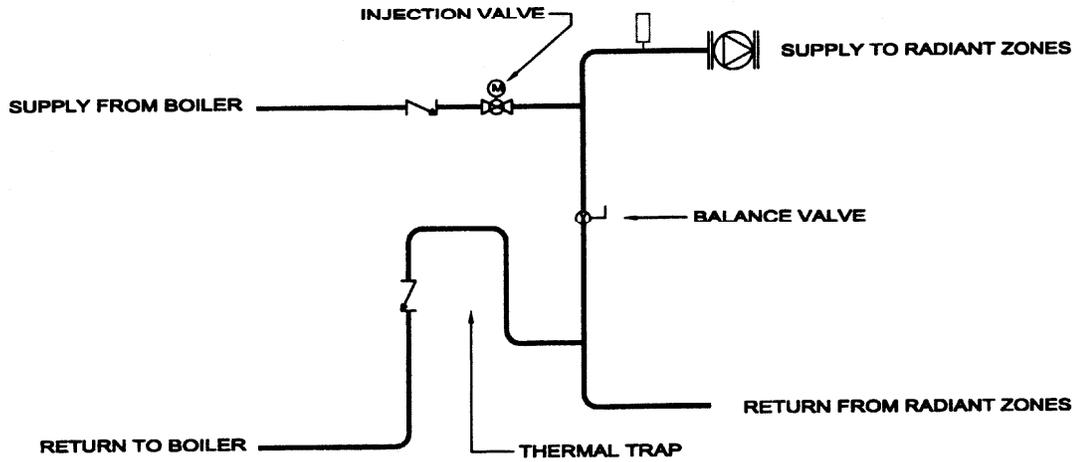

FIG 2
**Direct injection** - in this method the variable flow injection mixing system is piped as a separate zone from the main boiler supply manifold, with a check valve installed to prevent reverse flow in the radiant system when the pump is not operating. This method allows direct return of radiant system water to the boiler. A boiler loop pump is not required. (see FIG 2).